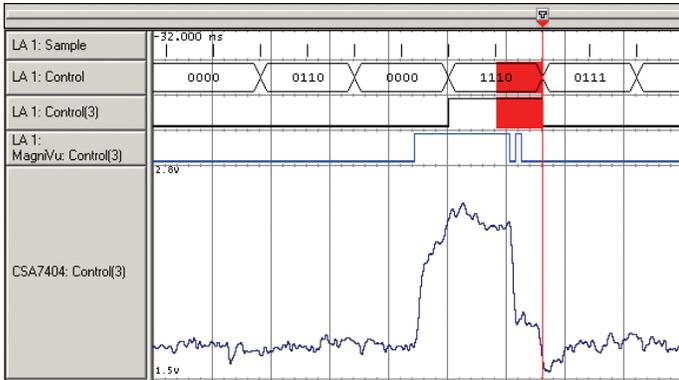

Figure 13. iView oscilloscope trace showing analog representation of Control (3) signal.
Once the oscilloscope and logic analyzer are connected and ready to acquire the signals, synchronizing the two instruments is key. The Tektronix logic analyzer uses a capability called iView™. The iView capability allows the logic analyzer to trigger the oscilloscope at exactly the right time to capture the glitch. With iView measurements, the logic analyzer also time-correlates the data and displays both the analog and digital waveforms on the logic analyzer's display. Looking at signal line Control (3), Figure 13 shows an analog iView display of the glitch.